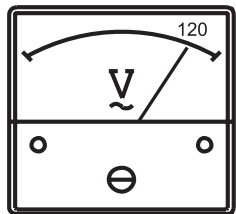

Figure 32. Voltmeter
7. The **AC voltmeter** (Figure 32) will display the generator's output in **VOLTS**.